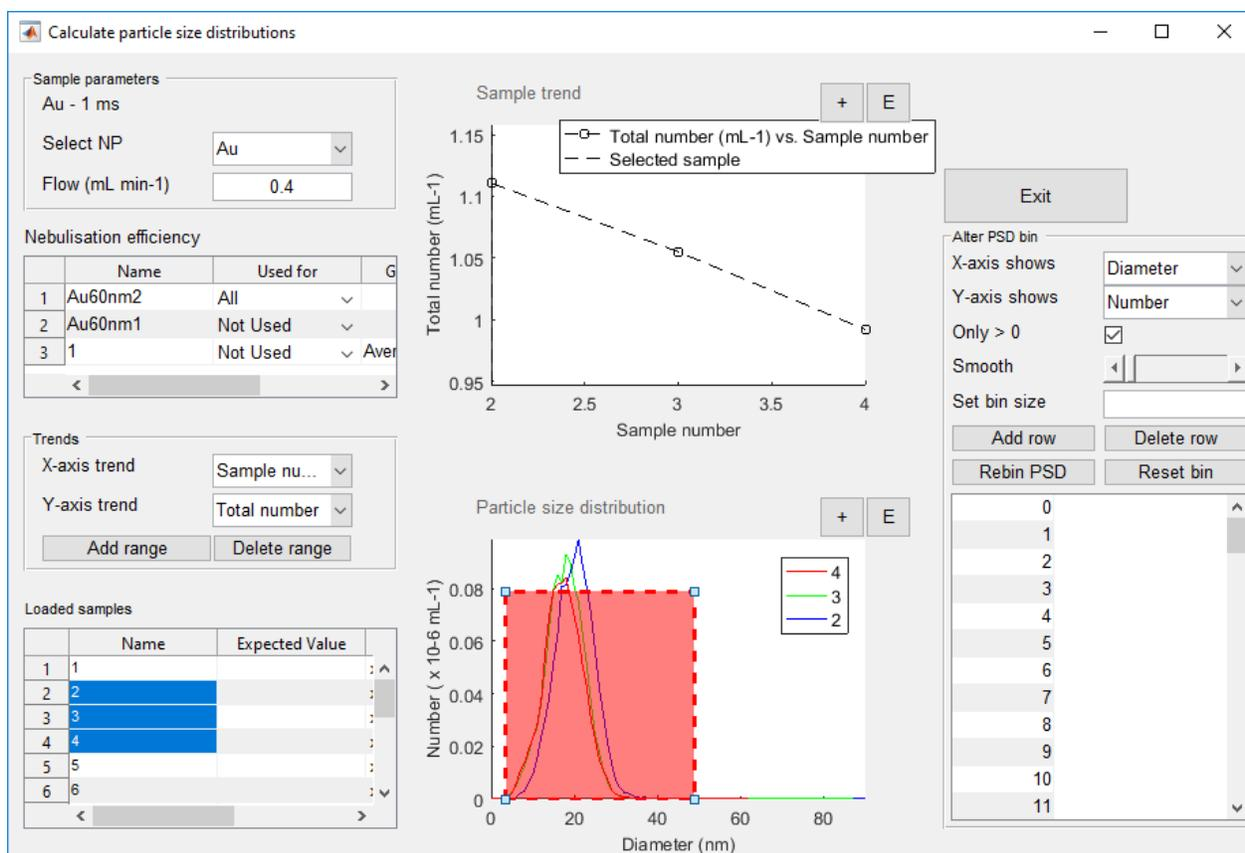

Figure 42 The PSD calculation tool
The final desired results can be obtained from the particle size distribution tool, activated by clicking “Obtain PSD” in the Sample submenu from the project window or the “PSD” quick link. Here, Particle size distributions of individual samples can be inspected and edited and trends of multiple samples can be obtained. Individual or multiple samples can be selected in the bottom left table. The functionalities in the tool are (Figure 42):
- “Add range”: A box appears as shown in Figure 42. The trend shown in the “Sample ytrend” graph is now only calculated for the currently selected diameter range. More than one range can be added to the PSD graph. Selecting ranges only shows data for that particular range. Clicking outside the graph deselects all the ranges and the data in “Sample trend” is then calculated for all the data and not one particular range.